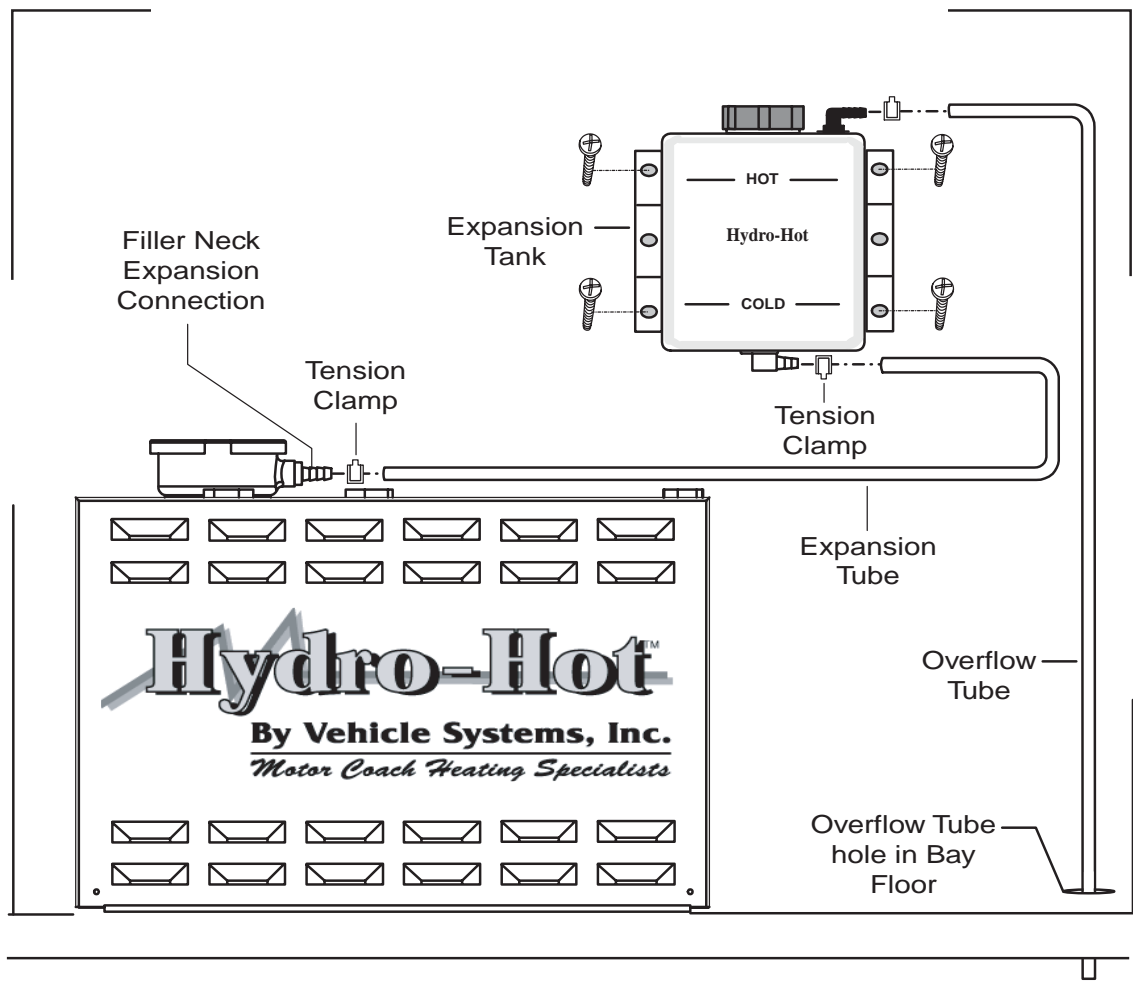

Figure 29
1. Mount the Expansion Tank as illustrated in Figure 29.
2. Connect and clamp the Expansion Tubing from the Expansion Tank to the Hydro-Hot's Filler Neck Expansion Connection, see Figure 29.